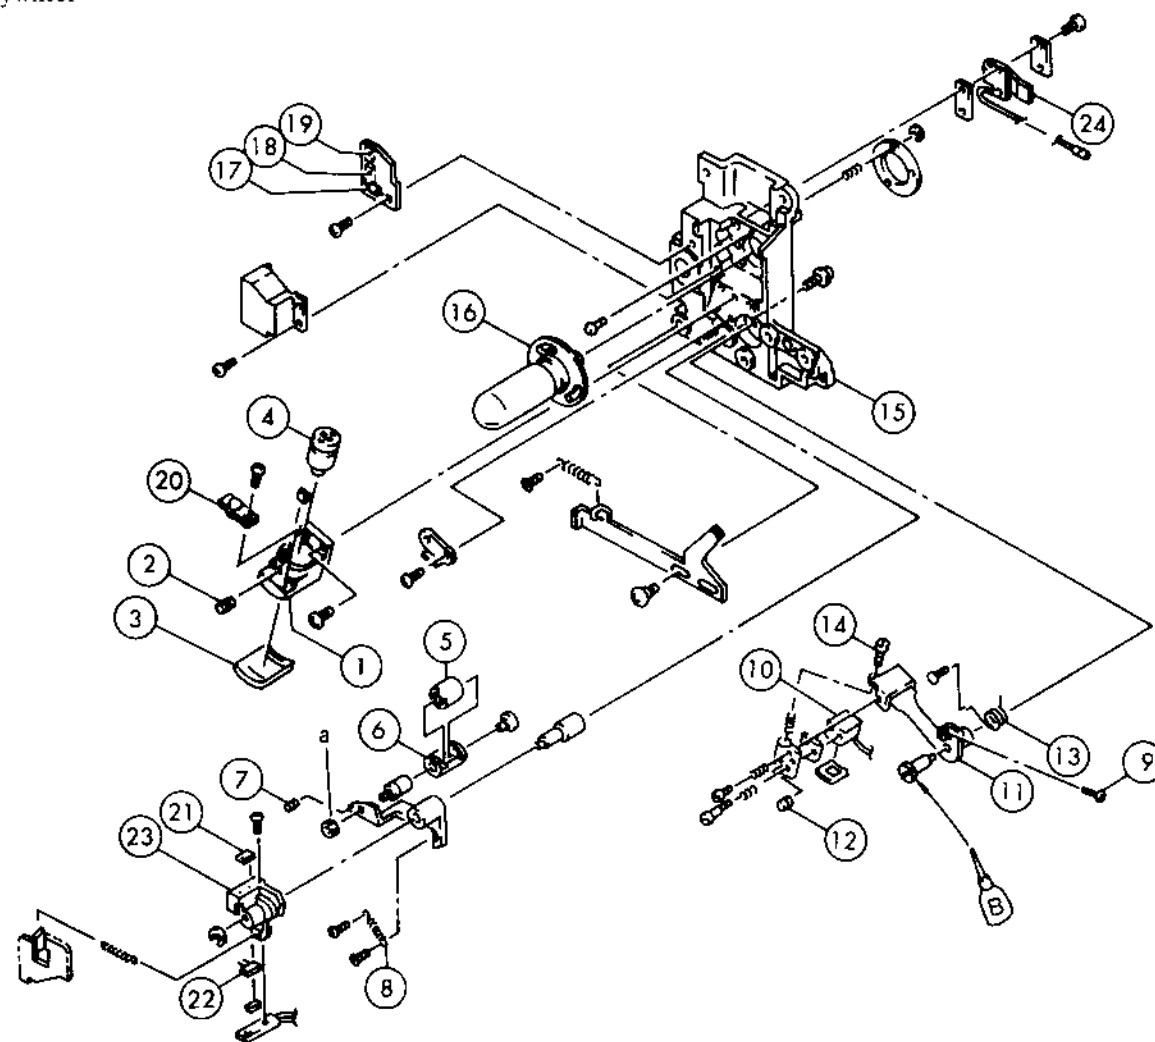

Fig. 49
1. Never remove ① from ④⑤ since it is installed with special jig.
2. For further disassembly, refer to Fig. 49.